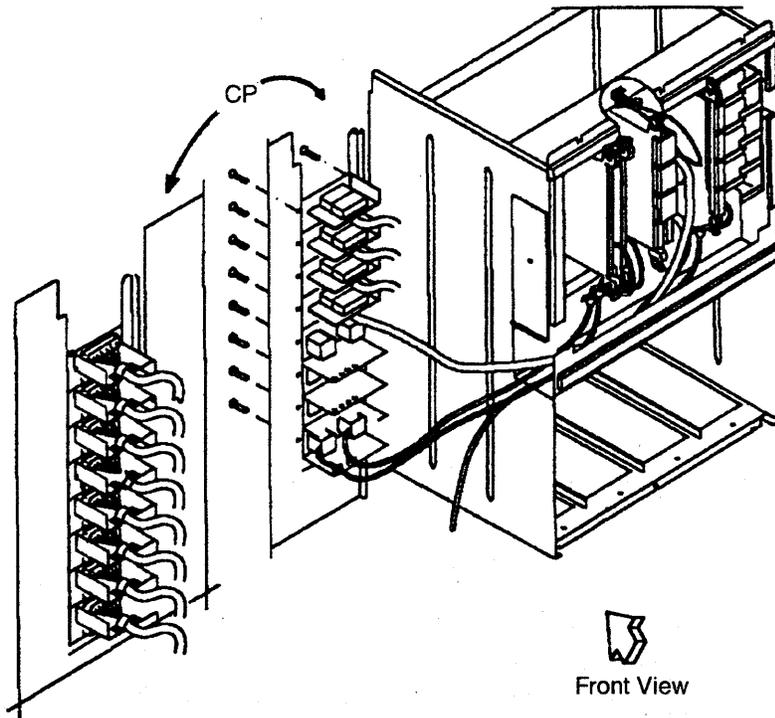
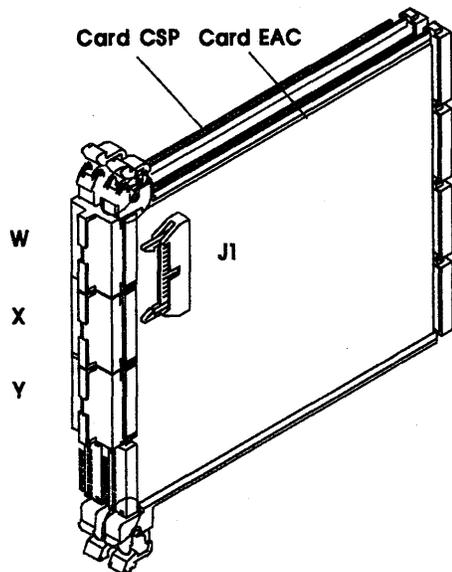

Figure 4-115. ESS Tailgate and LA Basic Board (01G-A1)
Figure 4-116. EAC Card.
- 5. Referring to Figure 4-115 on page 4-127 and Figure 4-116, remove the cable from EAC to the tailgate as follows: